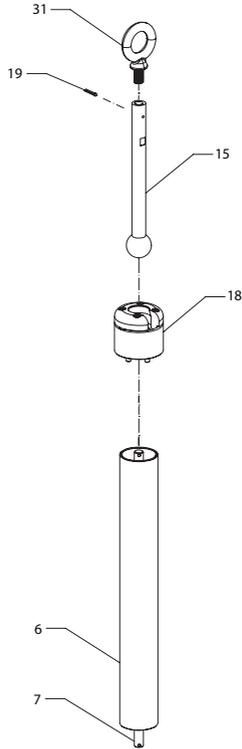

Figure 12
1. Place Tube End Holder (252) of sub assembly Flat/Tube Holder Assembly (18), (refer **Flat Holder Assembly**) over Tube (6) as shown in Figure 12 and secure with Tierod (7).
2. To assemble Ball End Shaft (15) with Flat/Tube Holder Assembly (18) refer assembly instructions as given under **Flat Holder Assembly**.
3. Fasten Eye Bolt (31) to the threaded end of Ball End Shaft (15) and secure with Cotter Pin (19).